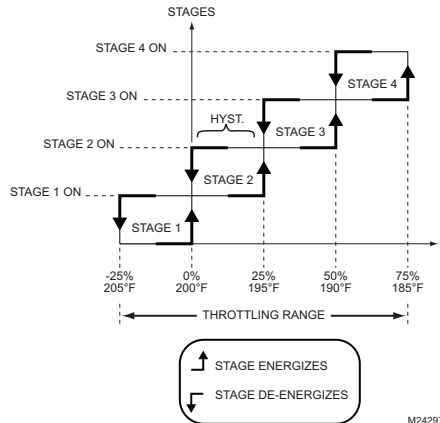

Fig. 18. Staging Behavior.
Staging occurs as illustrated in Fig. 18 for a Heat setpoint of 200°F and a throttling range of 20°F when the Integral value is zero (0). When the Integral is not zero, then the actual temperatures at which stages energize and de-energize will vary from this example; see "1.3.3.2. INTEGRAL" on page 17.